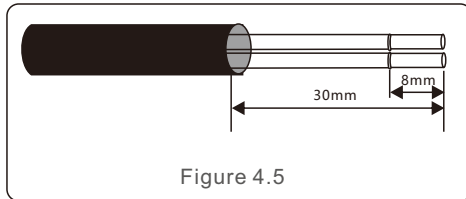

Figure 4.5
- Strip the insulation and shield to a suitable length. Use diagram below as a guide. (see Figure 4.5).